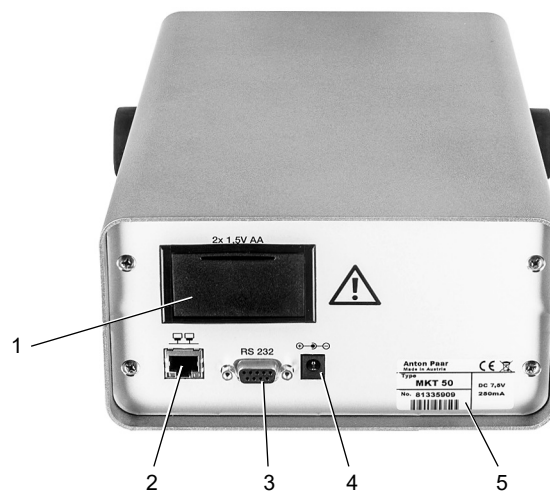

Fig. 3: Rear view of the instrument
2. Check that the serial number on the MKT 50 (see 5, fig. 3) matches the number on the optional parameter printout ("Configuration Parameters").
1. Connect the supplied power adapter to the instrument's power inlet (4, fig. 3).
1. Gently pry the lid of the battery compartment (1, fig. 3) with a screwdriver.